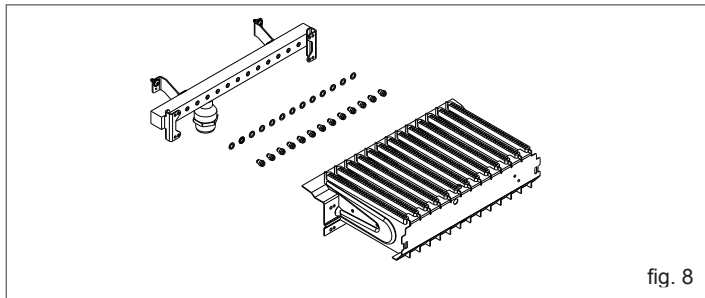

fig. 8
- use a box spanner or a wrench to remove the nozzles and the washers. Replace with those in the kit (fig. 8).